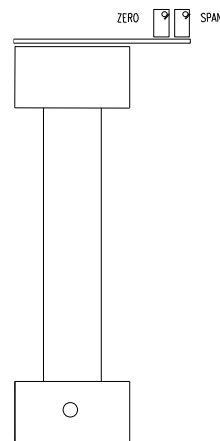

Fig. 4.1 Location of the ZERO and SPAN adjustment potentiometers
1. Any adjustments are made using the ZERO and SPAN adjust potentiometers on the detector printed board (the printed board on the sensor head, see Figure 4.1).